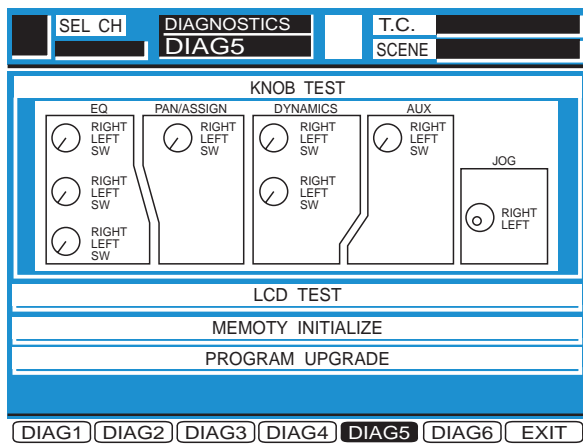

Fig. 5-5
- Press the Enter Key, the Diagnostic Menu 5 as shown in Fig. 5-5 is displayed.
- Referring to Fig. 5-5, select the LCD TEST Item by either UP or DOWN Cursor.
- Referring to Fig. 5-5, select the MEMORY INITIALIZE Item by either UP or DOWN Cursor.
- Referring to Fig. 5-5, select the PROGRAM UPGRADE Item by either UP or DOWN Cursor.